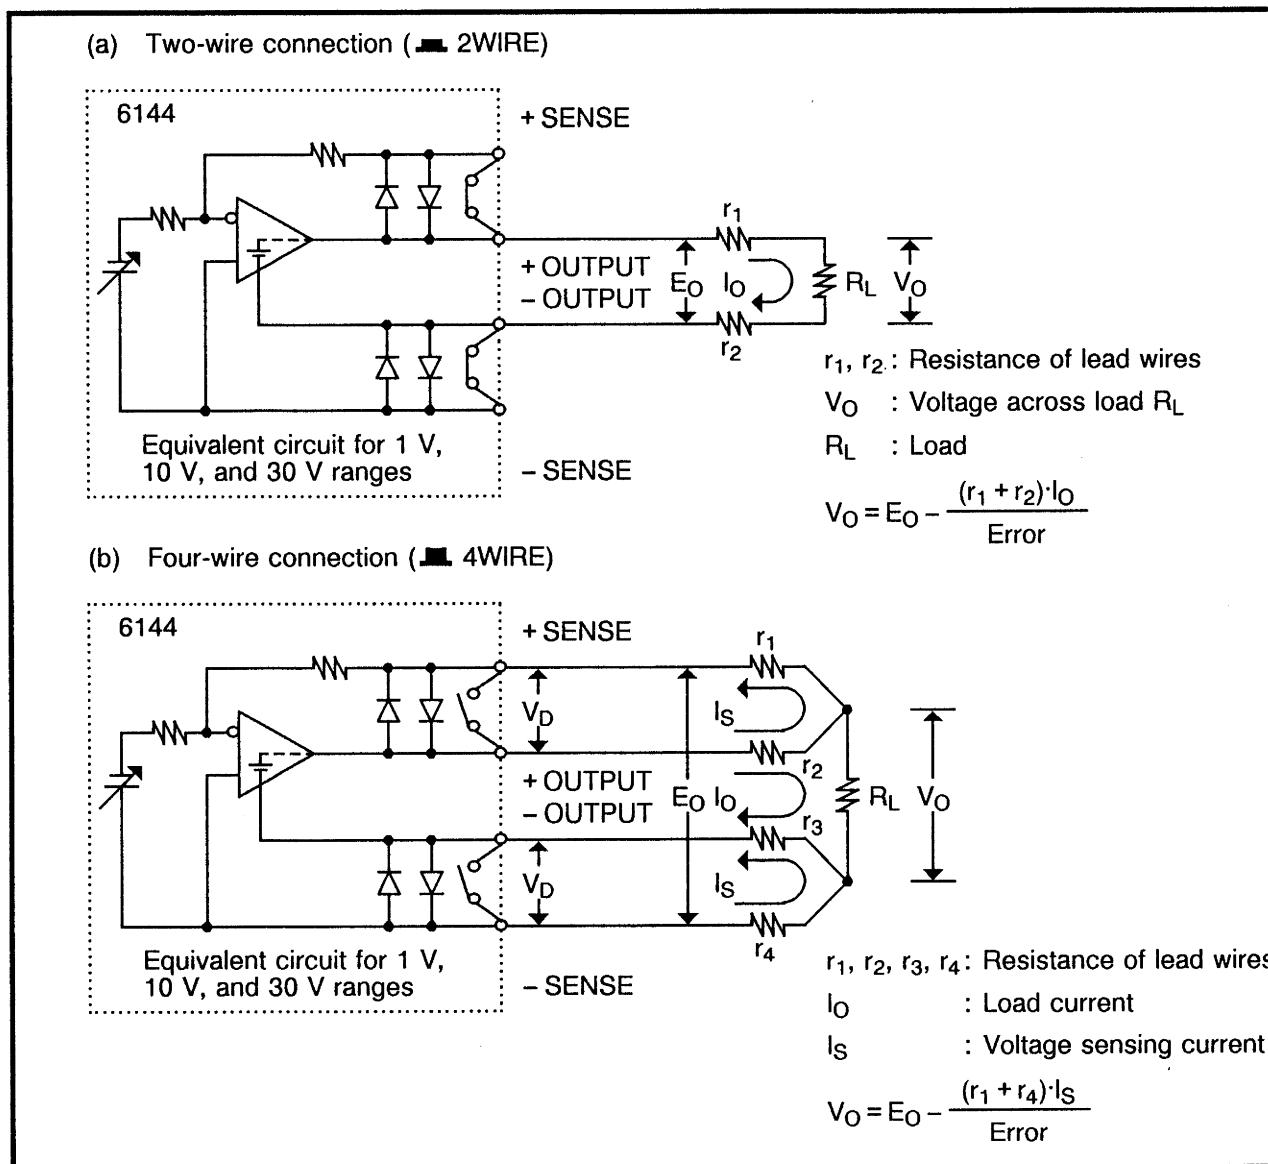

Figure 3-2 Equivalent Circuits
Figure 3-2 shows the equivalent circuits of two-wire connection (■ 2WIRE) and four-wire connection (■ 4WIRE).
1. In Figure 3-2,  $V_O = E_O - (r_1 + R_4) I_S$  is satisfied only when  $V_D$  does not exceed 0.3 V.